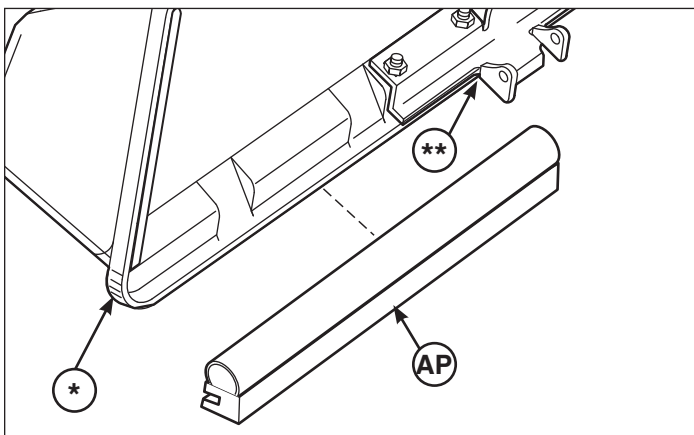

Figure 30
4. From inside of the grass collector, slide the cover edging (AP, Figure 30) onto the cover starting at the left side of the hinge edge (*) to the corner (**) on the cover edge as shown.